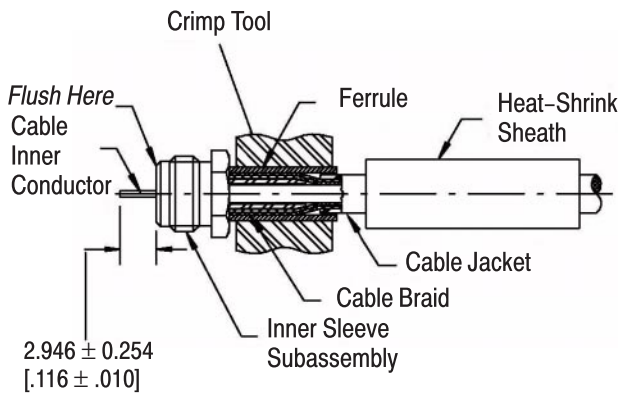

Figure 3
4. Hold the cable (seated firmly) and crimp the outer sleeve in place. See Figure 3.
6. Trim the cable dielectric flush with the end of the inner sleeve to expose the cable *inner* conductor. See Figure 3.